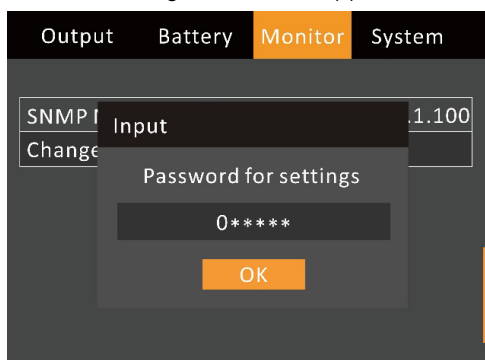

Figure 3-20 Password for settings
3. Press the  key, the interface shown in Figure 3-20 will appear.